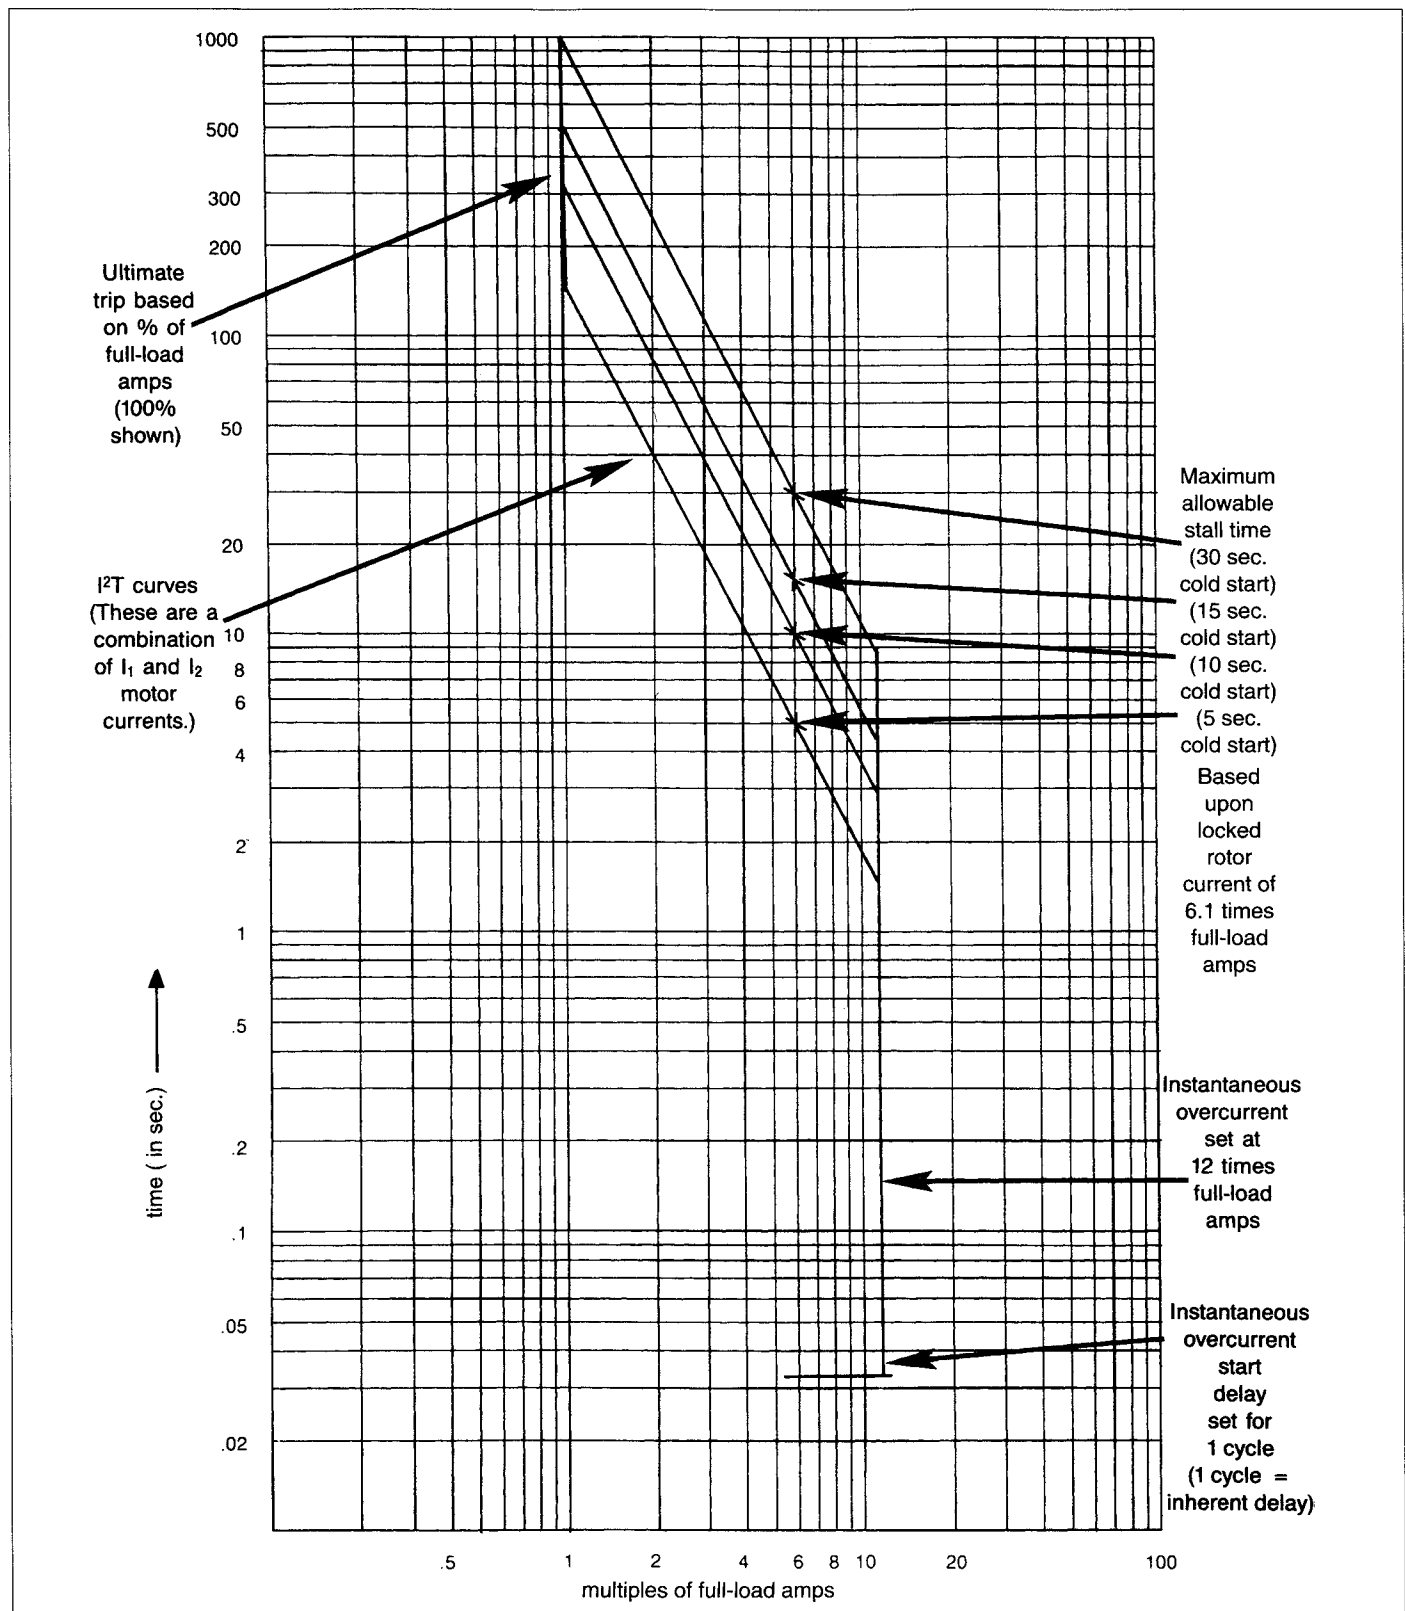

Fig. 7.2 Motor Protection Curve
7.1.3 Protection Curve — The motor protection curve defines the motor-versus-time relationship that is generated by the IQ-1000 II's application software, hardware, and programmed set point values. Note Figure 7.2. Ideally, this curve is located as close as possible to the motor damage curve, thus allowing maximum utilization of the motor without damage.
A brief discussion of how these values affect the motor protection curve is given in the following subparagraphs. The typical curve shown in Figure 7.2 is the result of the factors listed in these explanations.
7.1.3.1 Instantaneous Overcurrent Function — The specific instantaneous overcurrent (item 15) setpoint used in Figure 7.2 is 12 times (1200%) full-load amperes (item 42). In general, the instantaneous overcurrent setpoint for all applications should be at least 1.6 times the locked rotor current ratio. The instantaneous overcurrent setpoint available range is 300 thru 1600% of full-load amperes.
7.1.3.2 Locked-Rotor Function — The family of curves shown in Figure 7.2 is based upon a locked-rotor current set point (item 17) of 6.1 times (610%) the full-load amperes function's (item 42) set point and a variable locked-rotor stall time set point (item 18).
All curves shown in Figure 7.2 are based on a maximum allowable stall time from a cold start. Since the IQ-1000 II's algorithm retains a history of both the operating current and operating time of the motor, it is not necessary to program it for hot starts. The unit automatically takes into consideration whether it is a hot or cold start. The locked-rotor set point, however, should be set for a cold start.